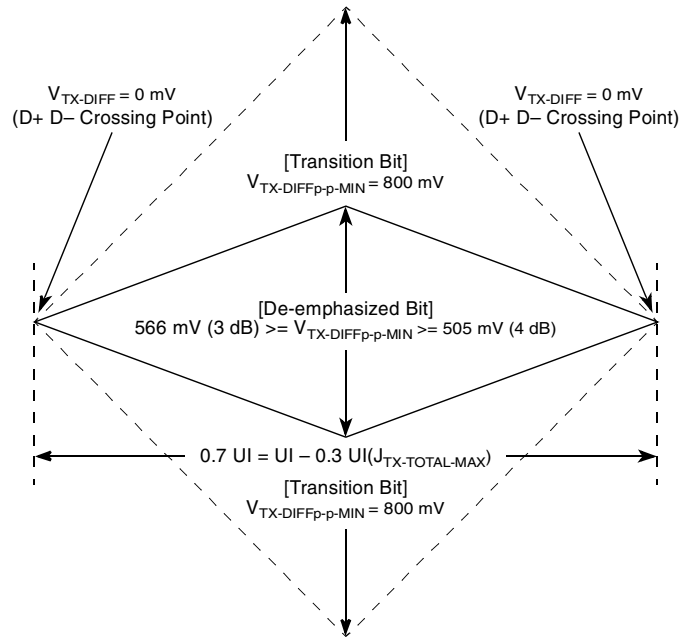
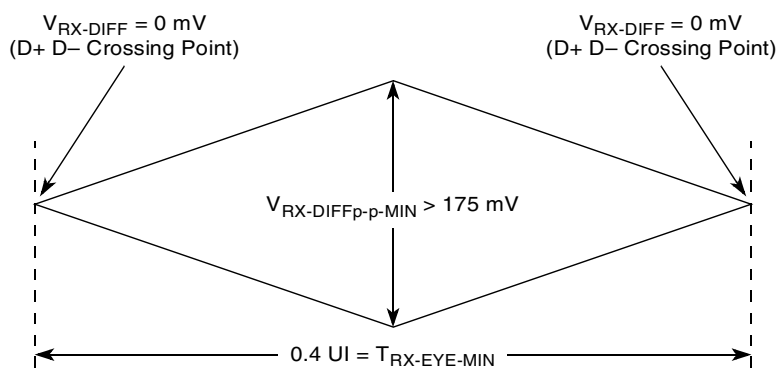
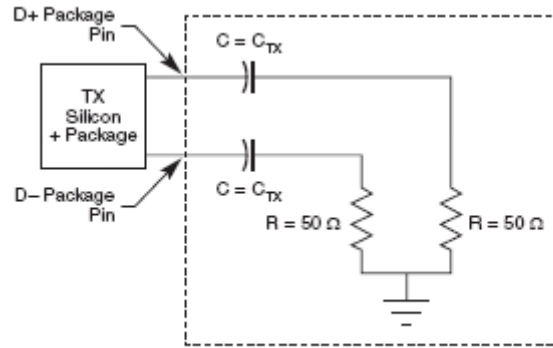

Figure 27. Minimum Transmitter Timing and Voltage Output Compliance Specifications
Figure 28. Minimum Receiver Eye Timing and Voltage Compliance Specification
Figure 29. Compliance Test/Measurement Load
2. Specified at the measurement point into a timing and voltage compliance test load as shown in Figure 29 and measured over any 250 consecutive TX UIs. (Also refer to the transmitter compliance eye diagram shown in Figure 27.)
4. The transmitter input impedance shall result in a differential return loss greater than or equal to 12 dB and a common mode return loss greater than or equal to 6 dB over a frequency range of 50 MHz to 1.25 GHz. This input impedance requirement applies to all valid input levels. The reference impedance for return loss measurements is 50  $\Omega$  to ground for both the D+ and D- line (that is, as measured by a vector network analyzer with 50- $\Omega$  probes, see Figure 29). Note that the series capacitors,  $C_{\text{TX}}$ , is optional for the return loss measurement.
5. Measured between 20%–80% at transmitter package pins into a test load as shown in Figure 29 for both  $V_{\text{TX-D+}}$  and  $V_{\text{TX-D-}}$ .
The TX eye diagram in Figure 27 is specified using the passive compliance/test measurement load (Figure 29) in place of any real PCI Express interconnect + RX component. There are two eye diagrams that must be met for the transmitter. Both diagrams must be aligned in time using the jitter median to locate the center of the eye diagram. The different eye diagrams differ in voltage depending on whether it is a transition bit or a de-emphasized bit. The exact reduced voltage level of the de-emphasized bit is always relative to the transition bit.
- Specified at the measurement point and measured over any 250 consecutive UIs. The test load in Figure 29 should be used as the RX device when taking measurements (also refer to the receiver compliance eye diagram shown in Figure 28). If the clocks to the RX and TX are not derived from the same reference clock, the TX UI recovered from 3500 consecutive UI must be used as a reference for the eye diagram.
- The receiver input impedance shall result in a differential return loss greater than or equal to 15 dB with the D+ line biased to 300 mV and the D– line biased to –300 mV and a common mode return loss greater than or equal to 6 dB (no bias required) over a frequency range of 50 MHz to 1.25 GHz. This input impedance requirement applies to all valid input levels. The reference impedance for return loss measurements for is 50  $\Omega$  to ground for both the D+ and D– line (that is, as measured by a vector network analyzer with 50- $\Omega$  probes, see Figure 29). Note that the series capacitors,  $C_{TX}$ , is optional for the return loss measurement.
The RX eye diagram in Figure 28 is specified using the passive compliance/test measurement load (Figure 29) in place of any real PCI Express RX component. In general, the minimum receiver eye diagram measured with the compliance/test measurement load (Figure 29) is larger than the minimum receiver eye diagram measured over a range of systems at the input receiver of any real PCI Express component. The degraded eye diagram at the input Receiver is due to traces internal to the package as well as silicon parasitic characteristics which cause the real PCI Express component to vary in impedance from the compliance/test measurement load. The input receiver eye diagram is implementation specific and is not specified. RX component designer should provide additional margin to adequately compensate for the degraded minimum Receiver eye diagram (shown in Figure 28) expected at the input receiver based on an adequate combination of system simulations and the return loss measured looking into the RX package
The reference impedance for return loss measurements is  $50\ \Omega$  to ground for both the D+ and D- line (that is, as measured by a Vector Network Analyzer with  $50\ \Omega$  probes—see Figure 29). Note that the series capacitors,  $C_{PEACCTX}$ , are optional for the return loss measurement.
The AC timing and voltage parameters must be verified at the measurement point, as specified within 0.2 inches of the package pins, into a test/measurement load shown in Figure 29.